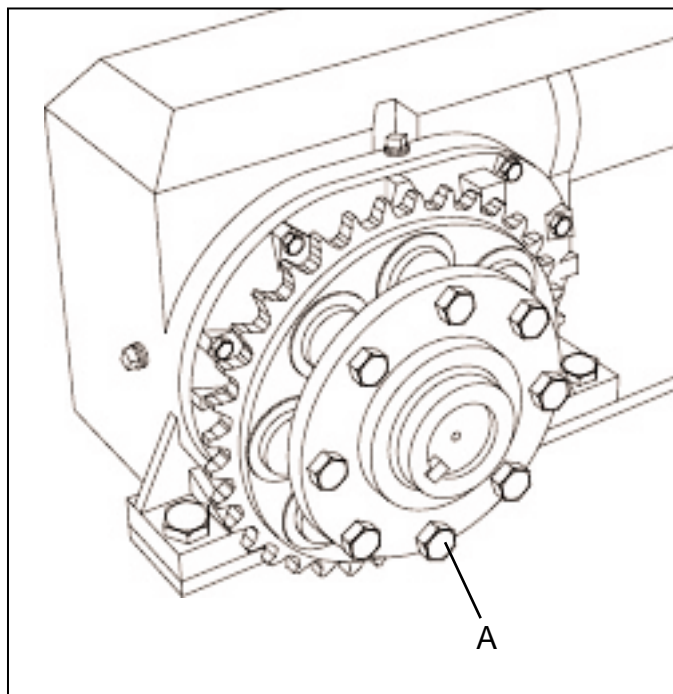

Figure 5.2 Torque Limiter.
- 5.4.1.2** To add torque, tighten adjusting bolts (item A in figure 5.2) equally around load plate until torque limiter holds load and accumulator chain stops perfectly. Tighten bolts equally in small increments. Do not completely flatten the disk springs.